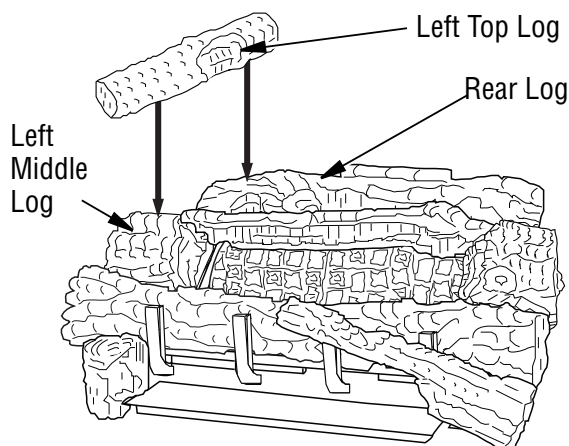

Figure 38 - Installing Left Top Log
10. Place the left top log onto the rear log and the left middle log. Make sure to place the projection on the bottom of the left top log into the recessed areas on the rear and left middle logs (see **Figure 38**).